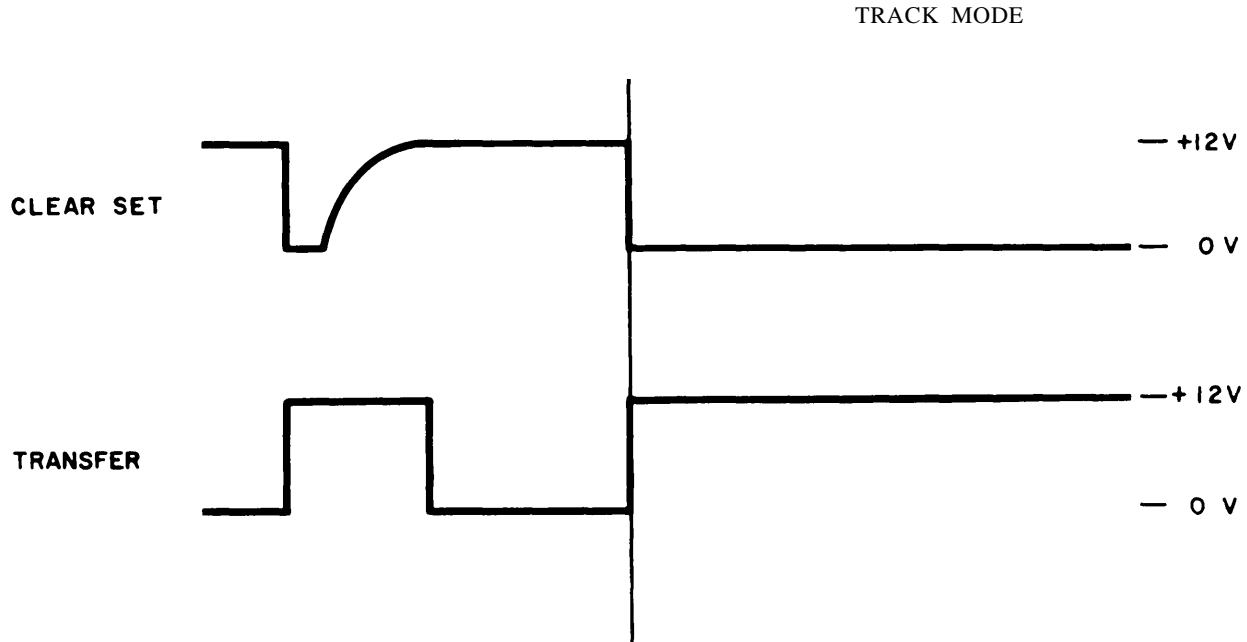

Figure 4-25. Store and Track Mode Readout Waveforms
The silicon-controlled switches are also used as the storage elements when the counter is operated in the store mode. In this mode of operation the positive clear-set voltage keeps the silicon-controlled switch in conduction after the AND gate is no longer activated. This causes the number displayed to remain illuminated even though the number in the count decade changes. When the clear-set voltage is removed the silicon controlled switch cuts off. To turn on the switch the AND gate must be reactivated. In the store mode this requires the presence of the transfer signal as well as the proper inputs from the count decades. Thus, the AND gate turns on the silicon-controlled switch, application of the clear-set signal holds it on, and removal of clear set turns it off. Figure 4-25 shows the relationship between the clear set and transfer signals during store and track operation.
c. USEFUL ILLUSTRATIONS. — Illustrations useful in maintaining this functional section are: figures 4-25, 4-26, 4-27, 4-28, 4-29, 5-42, 5-47, 5-48, 5-49, 5-77, 5-78, and 5-79.